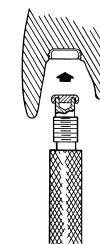
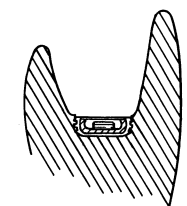

Fig. 16
Fig. 17
12. The LOCATOR Male Seating Tool (contained in Locator Core Tool, Zest order #8393) is used to firmly push a LOCATOR Replacement Male into the empty metal denture cap. (Fig. 16) The replacement male must seat securely into place, level with the rim of the cap. (Fig. 17) Use of multiple Locator attachments (3 or more) in the same dental arch may require use of the 3.0 lbs. (light retention) pink colored Replacement Male No. 8527 or 1.5 lbs. (extra light retention) blue colored Replacement Male No. 8529, for easier removal of the prosthesis by the patient. **NOTE: The Replacement Male will not stay on the tool when it is turned upside down due to the varying sizes of males available. It is best to hold the denture with the base side down and snap the male into the metal denture cap.**